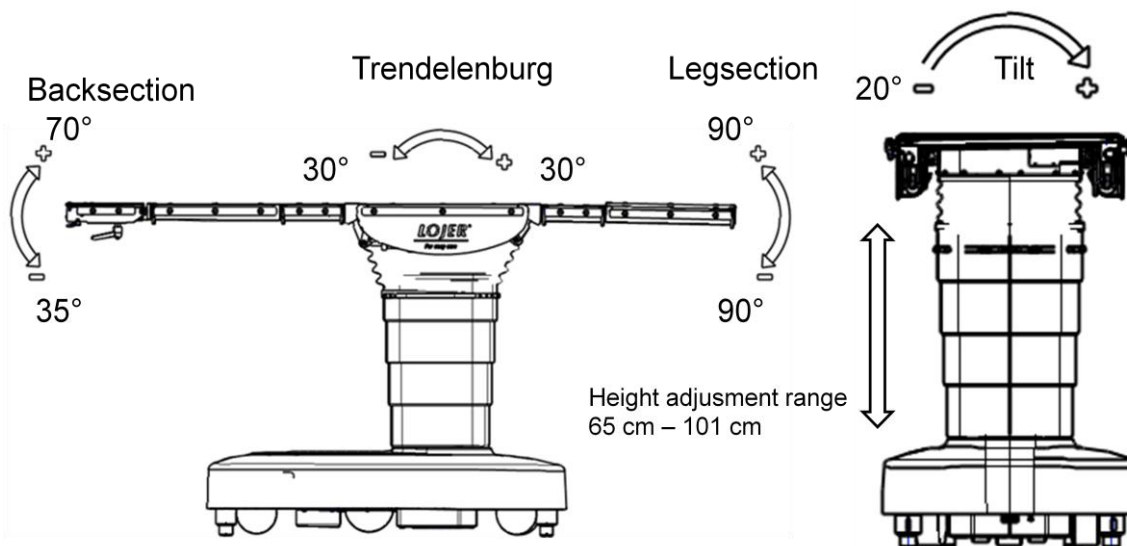

Figure 9: Adjustment range of the operating table
Maximum adjustment range of the table is presented below (Figure 9).
Tilt the table (patient) right by pressing the button on the hand control (Figure 5 (15)). Tilt to left with the button on the hand control (Figure 5 (14)). Maximum tilt 20 ° (Figure 9), when the table is horizontally. When the table is in trendelenburg/antitrendelenburg-position the tilt angle is limited.